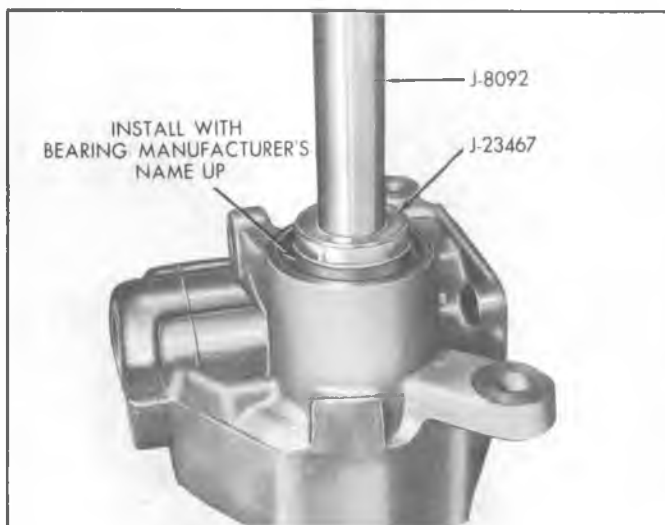

Fig. 6--Replacing Needle Bearing in Housing
1. Press or drive the needle bearings from the housing using Tool J-23467 and Handle J-8092 (fig. 6).